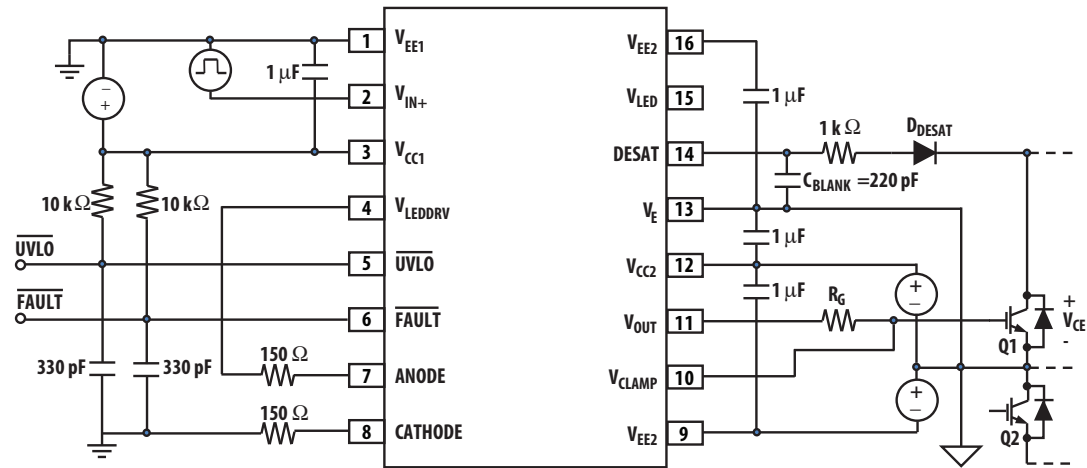
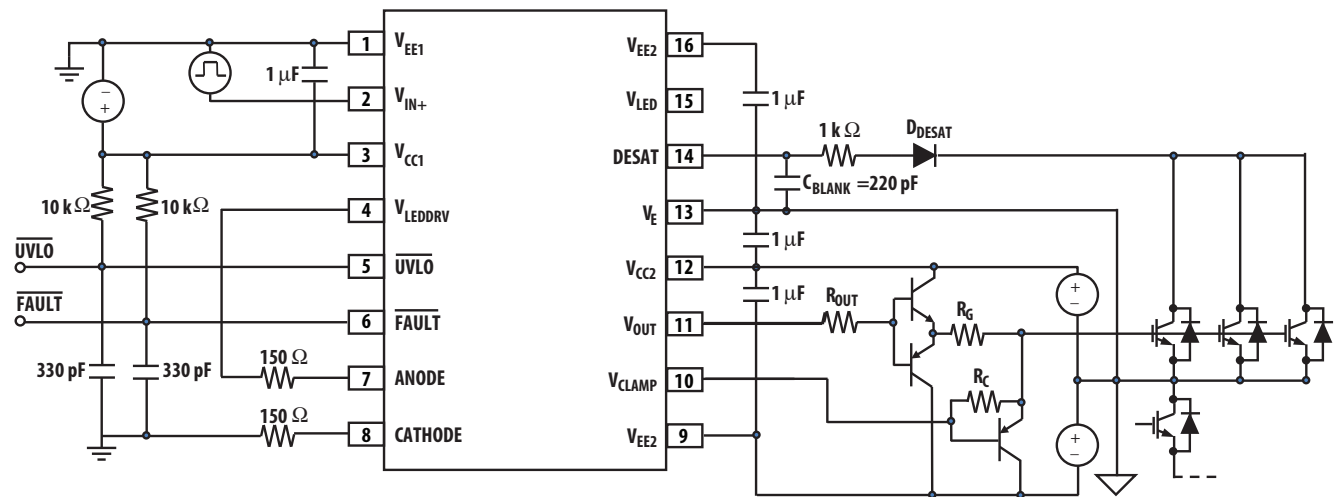

Figure 22. Typical gate drive circuits with DESAT detection
Figure 23. Typical parallel IGBT gate drive circuits with DESAT detection
The nominal blanking time is calculated in terms of external capacitance ( $C_{BLANK}$ , see Figure 22 and Figure 23), FAULT threshold voltage ( $V_{DESAT}$ ), and DESAT charge current ( $I_{CHG}$ ) in addition to an internal DESAT blanking time ( $t_{DESAT(BLANKING)}$ ).
Step 1: Calculate  $R_G$  minimum from the  $I_{O(PEAK)}$  specification. The IGBT and  $R_G$  in Figure 22 can be analyzed as a simple RC circuit with a voltage supplied by ACPL-337J.
In the recommended application circuit shown in Figure 22, the voltage on pin 14 (DESAT) is  $V_{\text{DESAT}} = V_F + V_{CE}$ , where  $V_F$  is the forward ON voltage of  $D_{\text{DESAT}}$  and  $V_{CE}$  is the IGBT collector-to-emitter voltage. The value of  $V_{CE}$  that triggers DESAT to signal a FAULT condition is nominally  $7\text{ V} - V_F$ . If desired, this DESAT threshold voltage can be decreased by using multiple DESAT diodes or low-voltage Zener diode in series. If  $n$  is the number of DESAT diodes, the nominal threshold value becomes  $V_{CE,\text{FAULT(TH)}} = 7\text{ V} - n \times V_F$ . If a Zener diode is used, the nominal threshold value becomes  $V_{CE,\text{FAULT(TH)}} = 7\text{ V} - V_F - V_Z$ . When using two diodes instead of one, then diodes with half of the total required maximum reverse-voltage rating may be chosen.